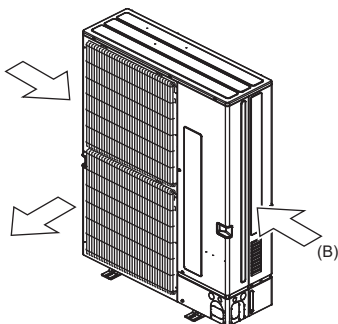

Fig. 2-5
- (3) Position the unit so that the air outlet blows perpendicularly to the seasonal wind direction, if possible. (Fig. 2-5)